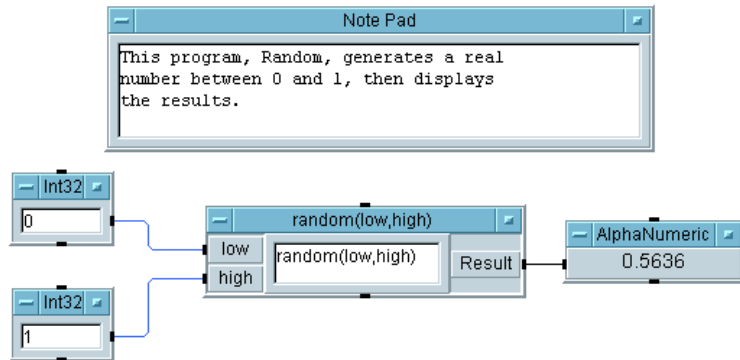

Figure 2-33. The Random Program
6. Click the **Run** button on the tool bar, and you will see a random number displayed as shown in Figure 2-33.